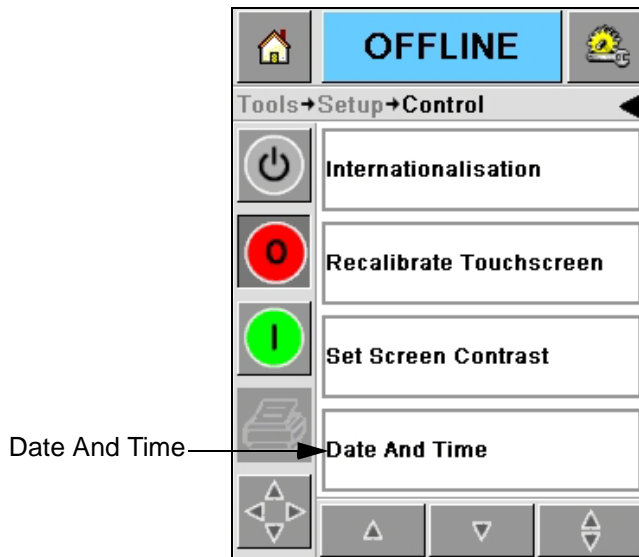

Figure 5-23: Control Screen
- 1 Navigate to *Tools > Setup > Control* from the Home screen. The *Control* Screen appears (Figure 5-23).
- 2 Select the *Date and Time* from the list displayed (Figure 5-23).